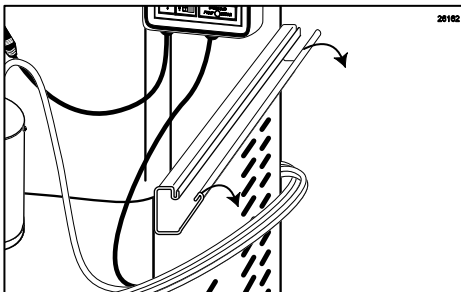

Figure 141
5. Pry open the 9-Tube Assembly Casing. (See Figure 141.)